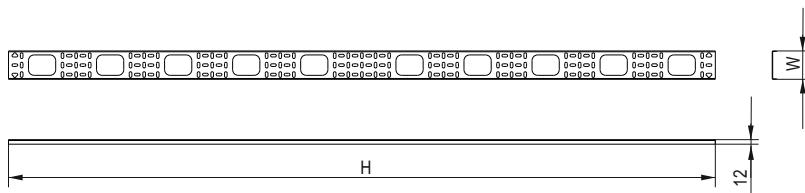

Рисунок 1 – Органайзер кабельный вертикальный / Figure 1 – Vertical cable organizer
2.2 Appearance, dimensions of the organizers are shown in figures 1–7 and in the tables 2–4.